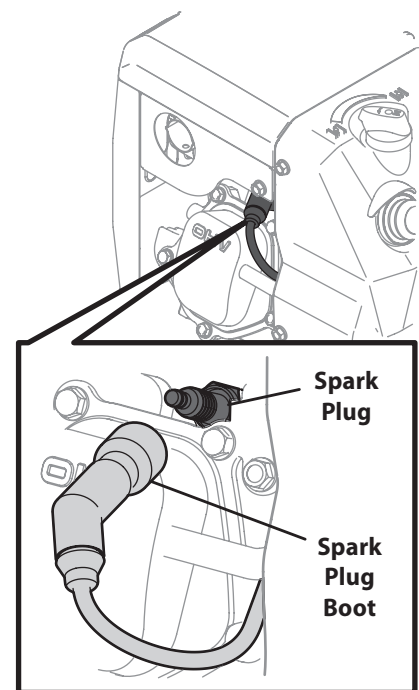

Figure 6-2
- Carefully disconnect the spark plug wire and keep it away from the spark plug. Refer to "Figure 6-2" for spark plug location.